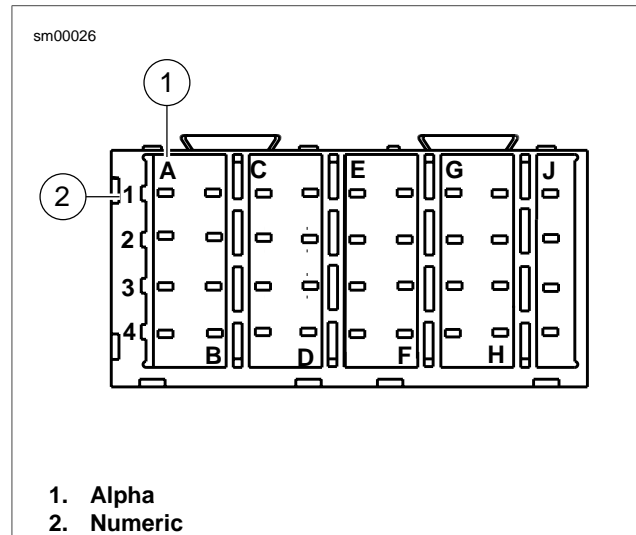

Figure A-42. Fuse Block: Coordinates (typical)
- See Figure A-42. The main fuse block terminal cavity is identified as alpha (1) and numeric (2) coordinates. Refer to the main harness wiring diagram for fuse block terminal cavity coordinates.